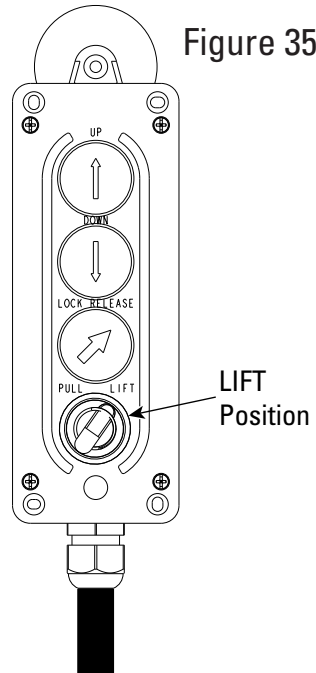

Figure 35
2. Rotate switch on pendant to "LIFT" position, Figure 35.